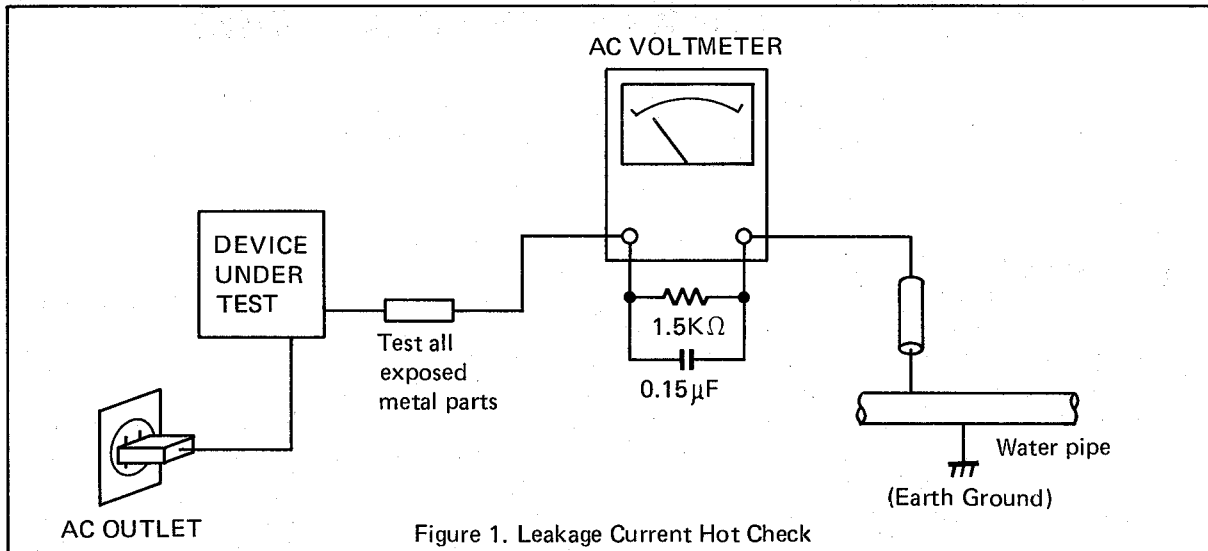

Figure 1. Leakage Current Hot Check
2. Connect a $1.5K\Omega$ 10 watt resistor, paralleled by $0.15\mu F$ capacitor, between each exposed metallic part on the unit and a good earth ground such as a water pipe, as shown in figure 1.